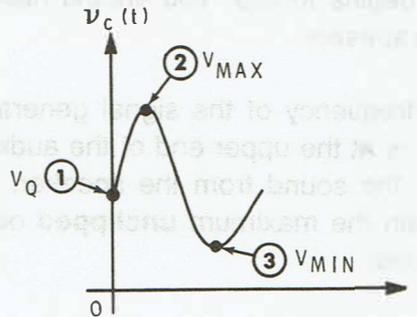

Figure E8-3
- Measure the voltage from the collector of the transistor to ground. You should obtain a waveform similar to the one illustrated in Figure E8-3.
This measurement corresponds to point 1 in Figure E8-3.